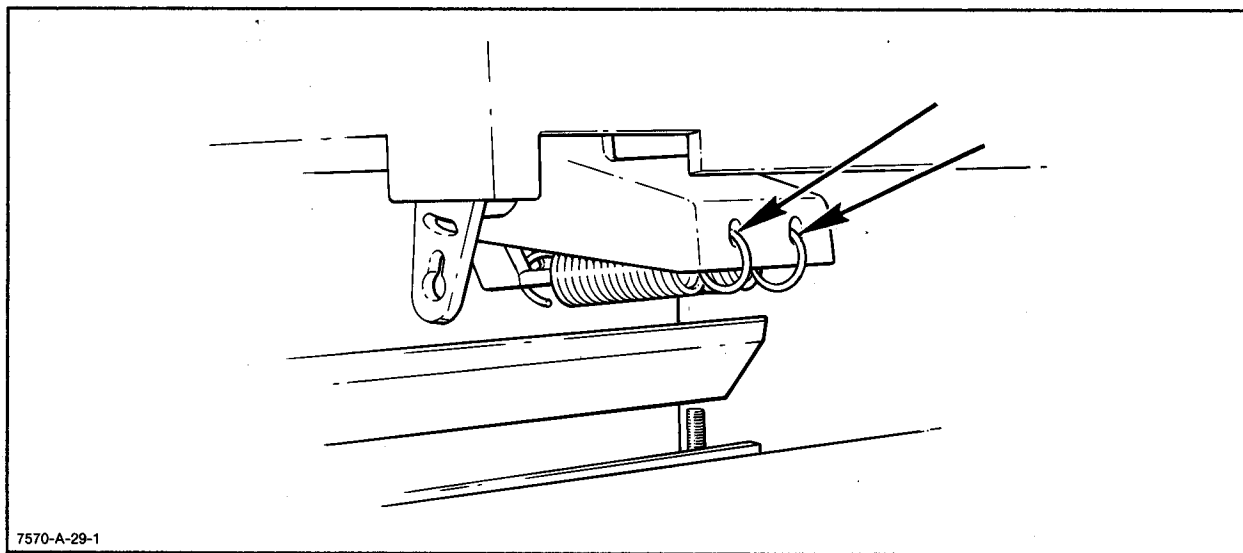

Figure 6-26. Pinch Wheel Tension Spring
- c. Using pliers, carefully remove the two pinch wheel tension springs from the assembly. See Figure 6-26.
- h. Using pliers, carefully remove the two pinch wheel tension springs. See Figure 6-26.
- g. Disconnect the spring from the front paper alignment arm, and remove the arm. See Figure 6-26.